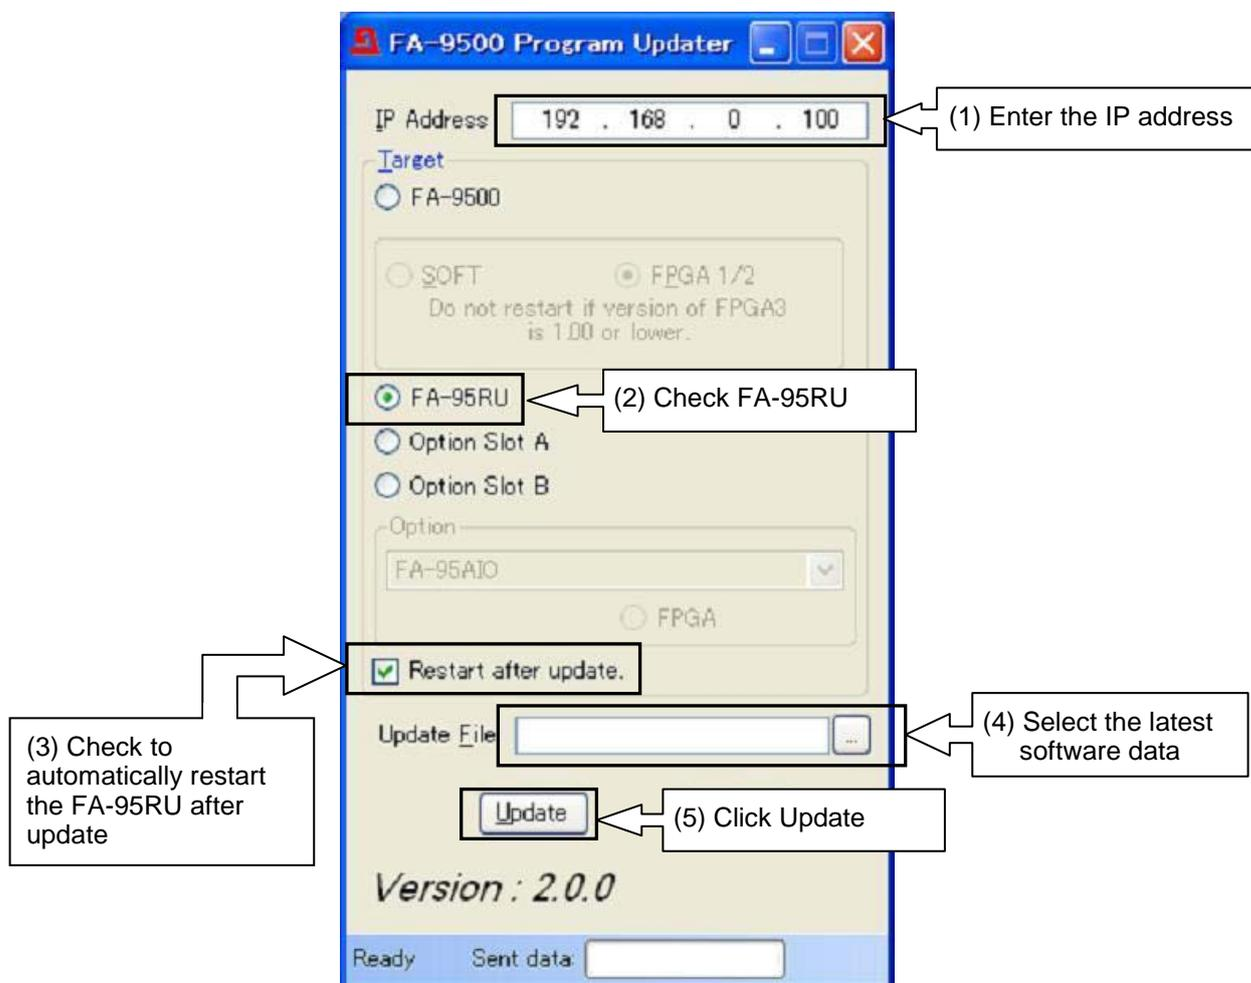

Fig. 4 FA9500ProgramUpdater window for FA-95RU software settings
3. Enter the IP address (default IP address: 192.168.0.100)(Fig. 4.(1)).
4. Check FA-95RU in the Target section (Fig. 4. (2)). To automatically restart the FA-95RU after update, check Restart after update (Fig. 4.(3)).
5. Select the latest DSP data under Update File (Fig. 4.(4)).
6. Click Update to start updating (Fig. 4.(5)).